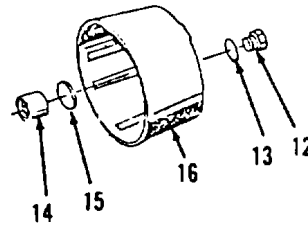
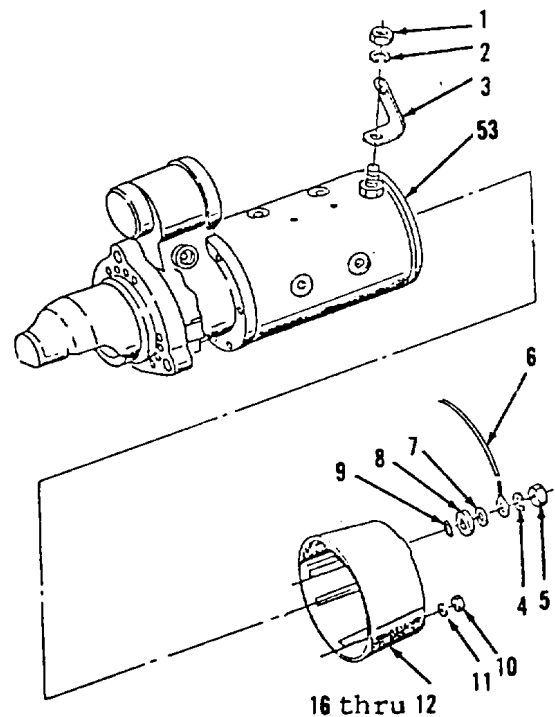

Figure 4-72.
Figure 4-71.
40. Using clean grease, lubricate center of both sides of new spacer (15, Figure 4-72).
41. Install new spacer (15) in cover (16).
42. Using suitable driver and press, install new bearing (14).
43. Install new seal (13) and plug (12).
44. Install items 16 thru 12 as an assembly on housing (53, Figure 4-71).
45. Install four lockwashers (11) and nuts (10). Tighten nuts (10) to 4 ft-lb torque.
46. Install new seal (9), bushing (8) and washer (7).
47. Connect wire assembly (6) at terminal.
48. Install lockwasher (5) and nut (4). Tighten nut (4) to 22 ft-lb torque.
49. Install bus bar (3), lockwasher (2) and nut (1).